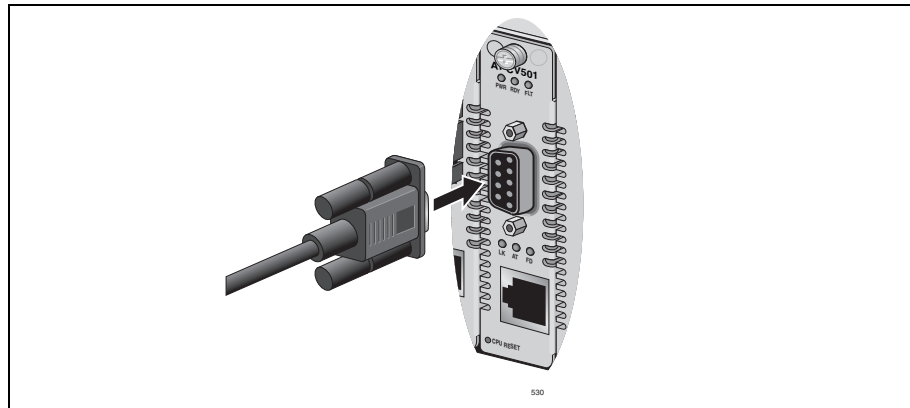

Figure 9. Connecting the Management Cable to the Management Card's Console Port
1. Connect one end of the management cable included with the management card to the Console port on the management card, as shown in Figure 9. If the chassis has two AT-CV5M02 Management Cards, start the session on the active management card, identified by its green RDY LED.